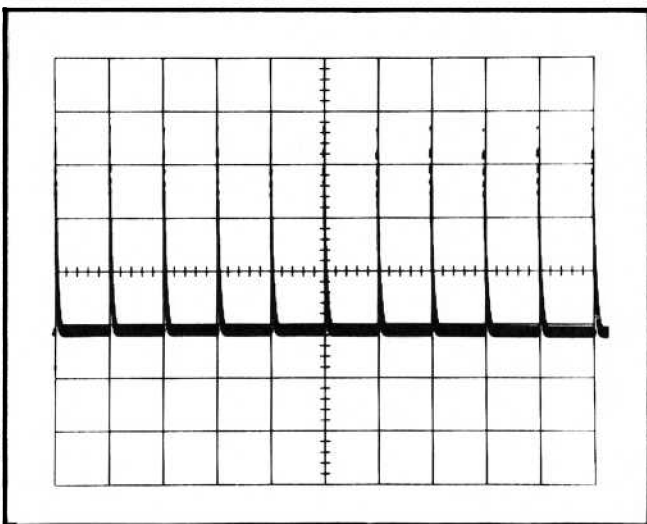

Fig. 5-6. CRT display showing correct 5 μ s timing.
- c. CHECK—CRT display for one marker each division between the second and tenth vertical lines. Check that sweep timing is within 0.16 division (2%) over the center eight divisions. See Fig. 5-6.